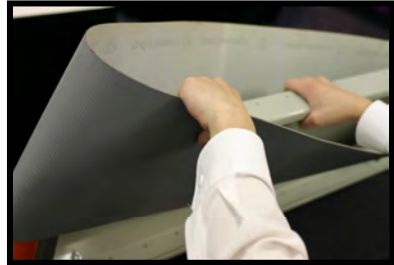

Figure 7
g. Remove the belt by transferring the slack to the Drive End of the conveyor. To do this, slide the belt out of the flanges on both sides of the conveyor, located on the bottom side of the conveyor. Pull the belt off the conveyor from the drive end first (**Figure 7**), being careful not to go too fast to avoid damaging to the Drive Motor. For wider and longer conveyors, it may be necessary to have another person help to hold the conveyor and belt.